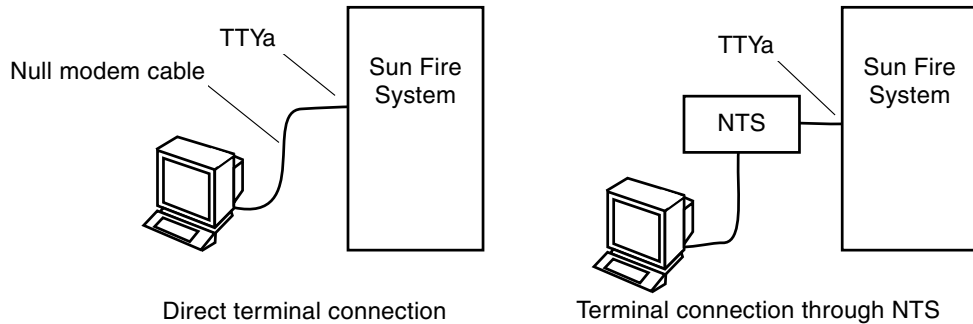

FIGURE 3-3 Serial Cable Connections
2. Connect the other end of the serial cable to the chosen ASCII terminal or NTS server (FIGURE 3-3).